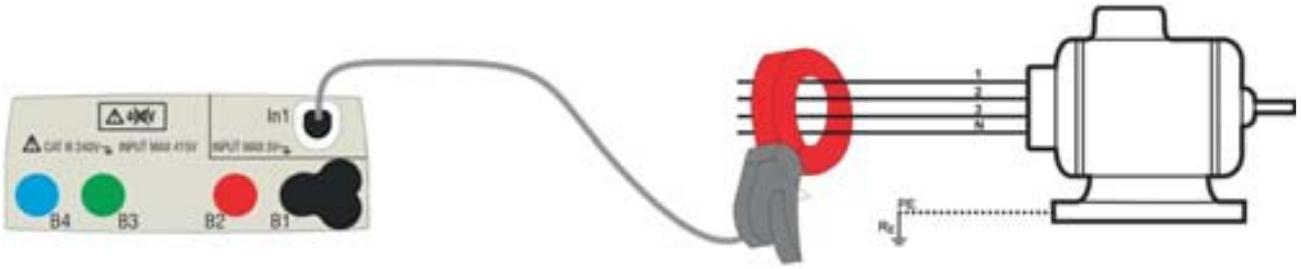

Fig. 26: Indirect measurement of leakage current in three-phase systems
4. For indirect measurements of leakage current, connect the external clamp according to Fig. 26. For direct measurements of leakage current, connect the clamp according to Fig. 27 and disconnect possible additional earth connections that could influence the test results.